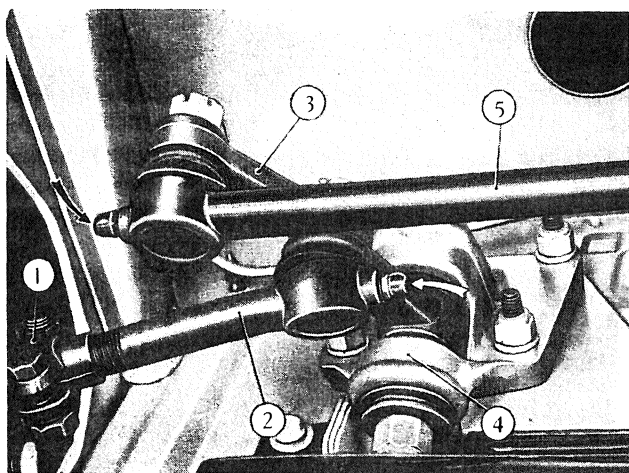

Fig. 336 - Detail of steering relay linkage.
- back out the three support self-locking nuts (fig. 336) and take off support from studs.